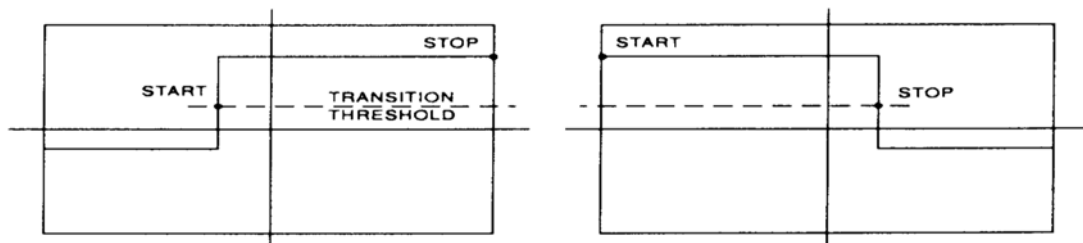

Figure 5-2 Step Waveforms
8. The process follows a similar procedure to locate the top amplitude (top line). The power range for the top histogram is 5 dB and the resolution is 0.02 dB, resulting in 250 levels. The level-crossing histogram is computed for a single pulse, using the samples which exceed the transition threshold. If only one transition exists in the buffer (Types 2 and 3), the process uses the samples that lie between the edge of the screen and the transition threshold as shown in Figure 5-2.